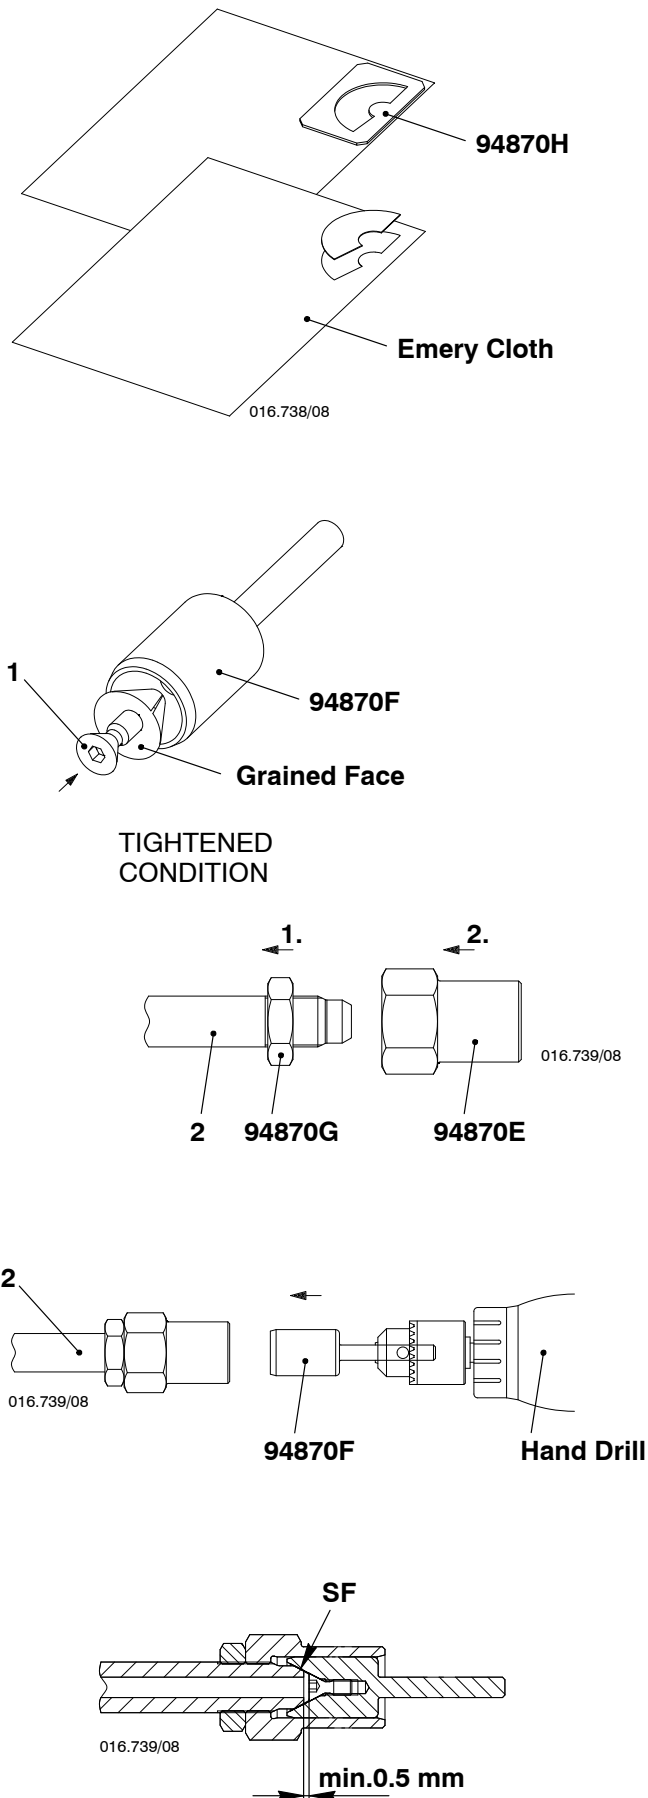

Fig. 11
- 1) Put the template 94870H on the back of the emery cloth, see Fig. 11.
- 6) Tighten the countersunk screw (1).
- 9) Attach the nut (94870G) on to the thread of the HP fuel pipe (2).